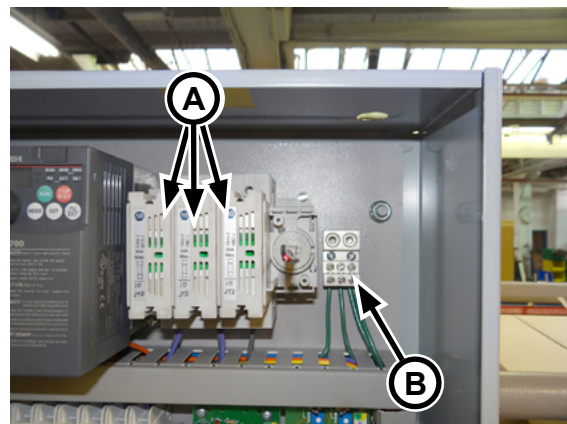

Figure 2-12: The electrical supply is connected at the top of the main disconnect switch.
6. Connect the three incoming power wires to the fused terminals of the main disconnect switch (Figure 2-12, A).
7. Connect the ground wire to the grounding lug (Figure 2-12, B) using the Allen wrench.